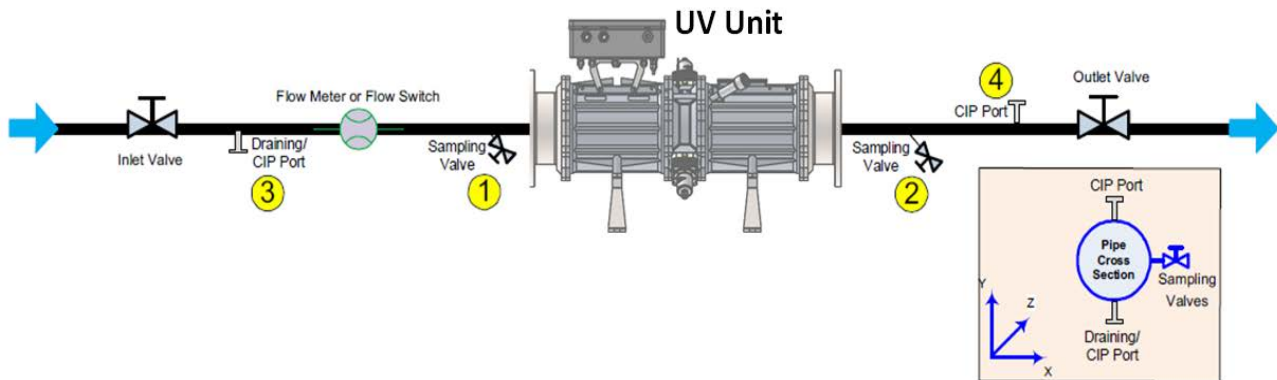

Figure 5-6: CIP Ports and Sampling Valves Orientation
Step 1. On the Inlet side, install the **Long welding ferrule** or **threaded male adapter (1)**.
- Position aseptic sampling valves (1 & 2 in Figure 5-6 on page 5-49) **horizontally** (90^0) on the pipe center, within 50cm of the Unit.
- Weld the 1 inch **ferrule (1)** clamp fitting at a horizontal orientation (3 or 9 o'clock).